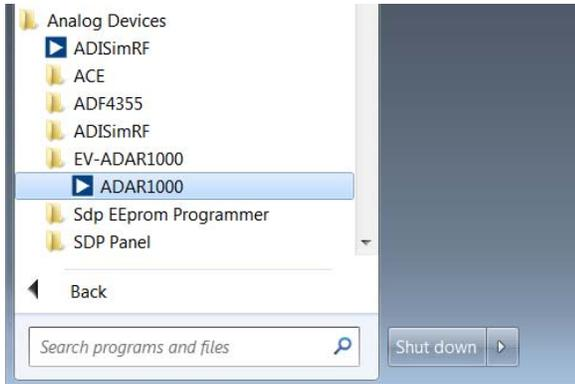

Figure 24. Run Control Software from the **Start** Menu
5. Use the **Start** menu to run the ADAR1000-EVALZ evaluation software (see the Evaluation Board Software Installation section for more information), as shown in Figure 24.